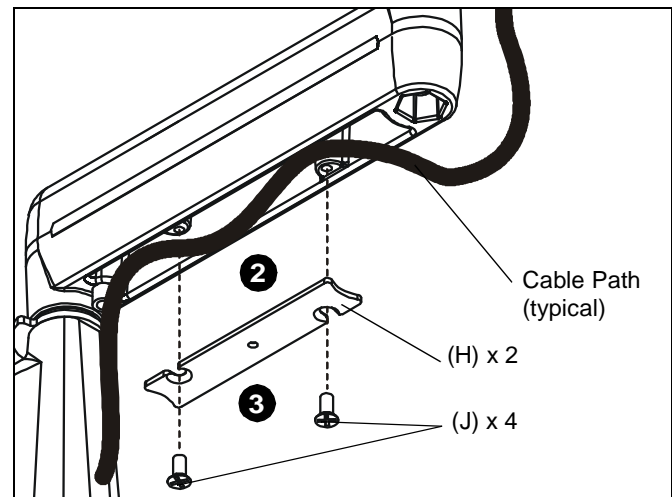

Figure 10
2. Carefully insert cables in cavity located in lower portion of mount arm (See Figure 10).
3. Using Phillips screwdriver, install cover (H) with two screws (J). (See Figure 10)